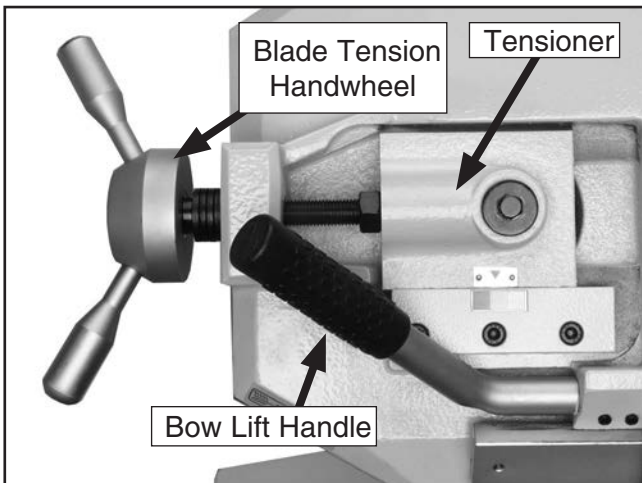

Figure 34. Blade tension handwheel and tensioner, and bow lift handle.
5. Loosen the blade tension handle in **Figure 34** and slip the blade off of the wheels.